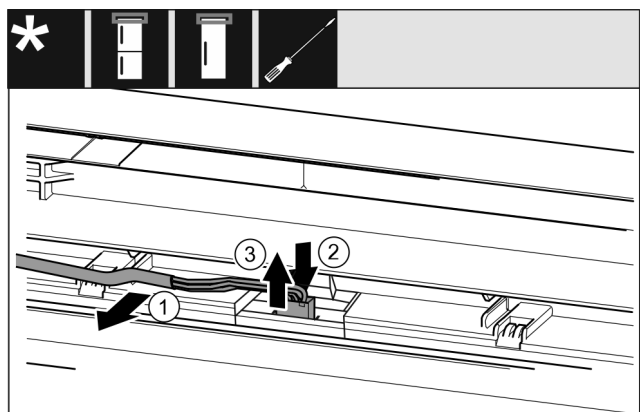

Fig. 9 Fridge/freezer combinations / freezers / refrigerators
- Release the cable Fig. 9 (1) from the guide in the door carefully.
- Push the tab Fig. 9 (2) behind the plug backwards.
- Pull the plug Fig. 9 (3) out upwards carefully.